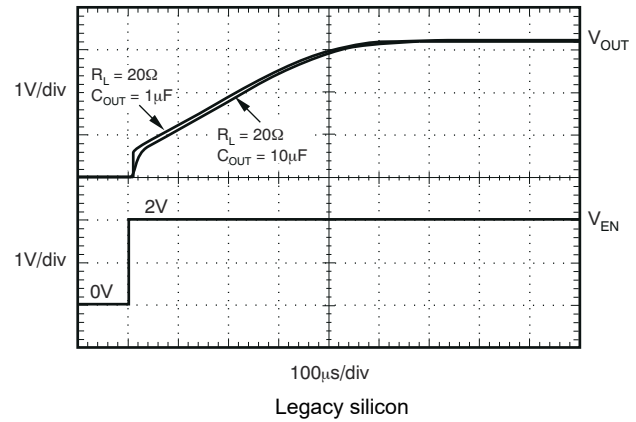

图 5-32. TPS73701 Turn-On Response
The enable pin (EN) is active high and compatible with standard TTL-CMOS levels. V_{EN} below 0.5 V (maximum) turns the regulator off and drops the GND pin current to approximately 10 nA. When EN is used to shutdown the regulator, all charge is removed from the pass transistor gate, and the output ramps back up to a regulated V_{OUT} (see 图 5-32).